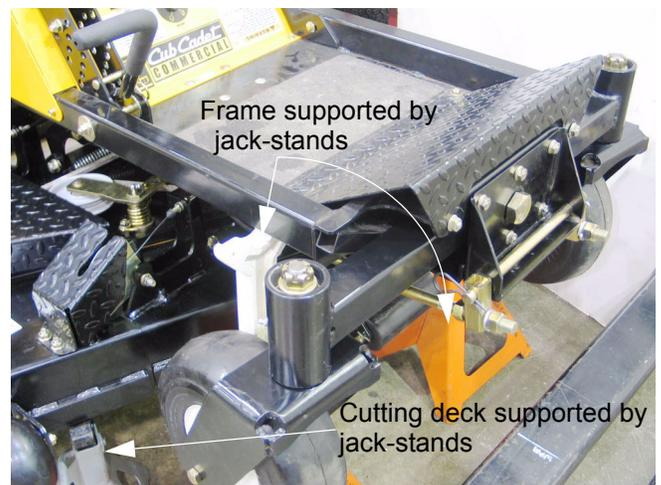

Figure 27.29
- 27.29. Support the cutting deck by the reinforced front lip, just inside of each front deck gauge wheel. This will take the weight off of the front lift rod. See Figure 27.29.